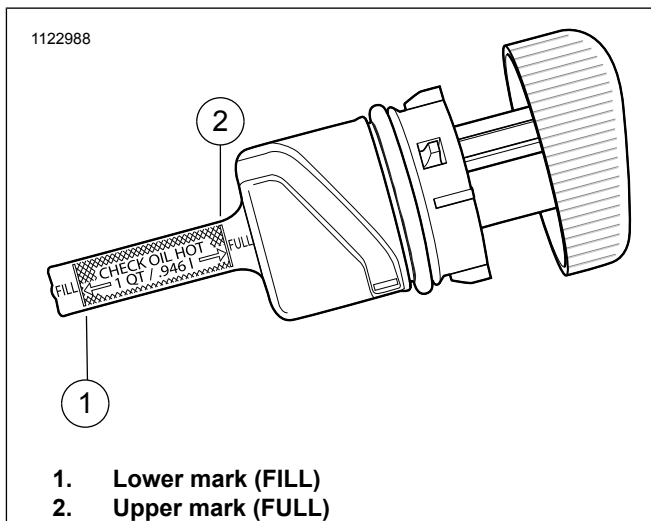

Figure 41. Dipstick
5. See Figure 41. Remove the filler cap. Check engine oil level.